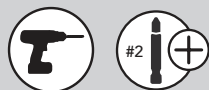
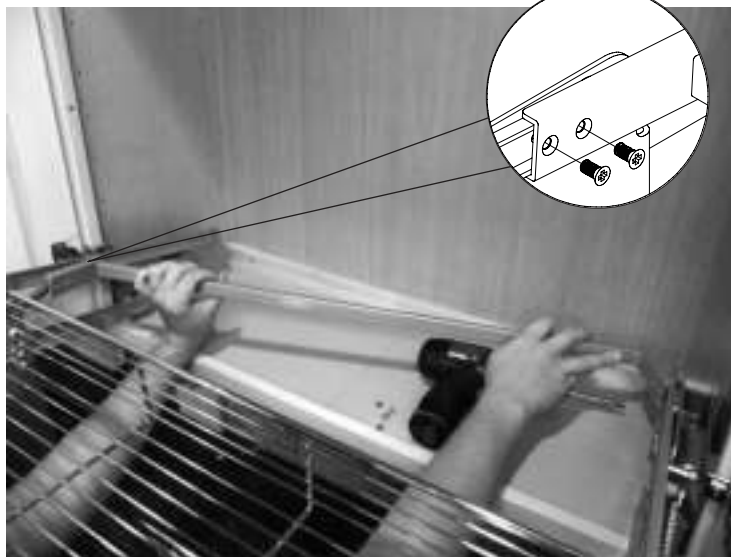

FIG. 6
FIG. 7
Attach the synchronizer bar to the rear frame arms by tilting the bar at an angle and sliding it down the main body from front to back as shown in (Figure 6). Secure bar in place by using (4) M5x12 mm flat head screws as shown in (Figure 7).